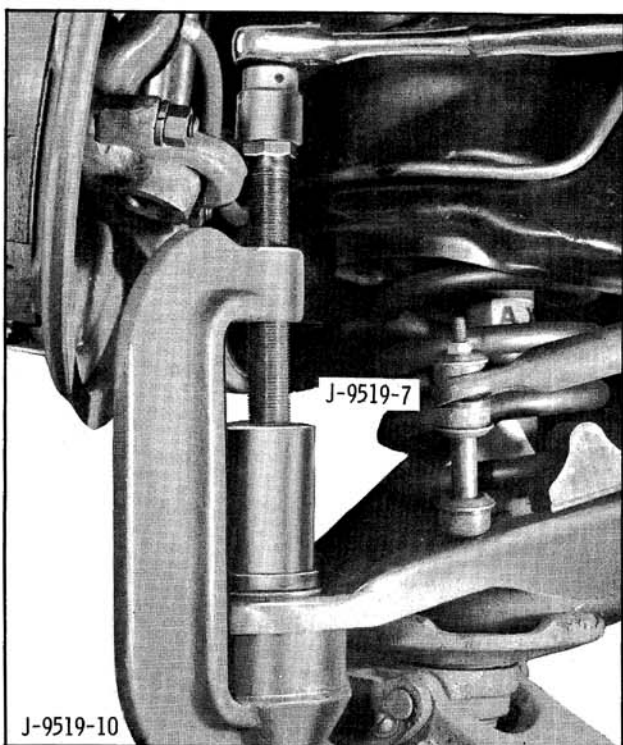

Fig. 9-28 Removing Lower Ball Joint
4. Remove ball joint seal and press ball joint from control arm as shown in Fig. 9-28.